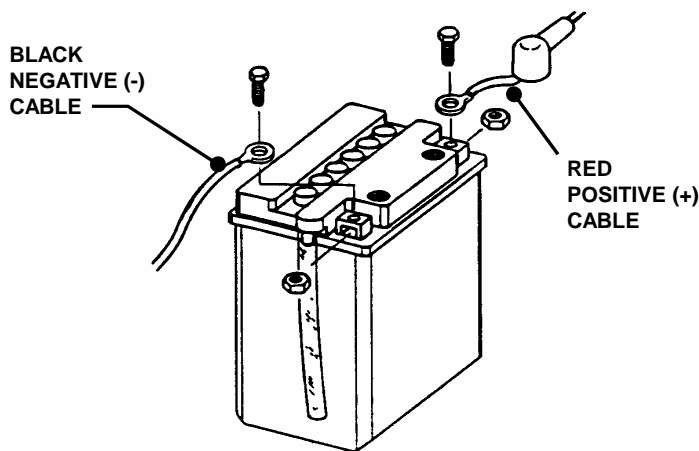

FIGURE 4.16
Before attempting any adjustments or repairs, STOP the engine, remove the key, remove the spark plug wire(s) from the spark plug(s) and secure wire(s) away from plug(s). Never attempt to service or charge the battery while it is installed on the YARD CRUISER. Shield the positive terminal with terminal cover located on battery harness. This prevents metal from touching the positive terminal, which could cause sparks. Cables must be connected to battery terminals in the proper position as shown in Figure 4.16.
2. Observe and note cable positions on battery. See Figure 4.16.
2. Connect cables to battery terminals. Connect RED (Positive) cable first. Connect BLACK (Negative) cable. See Figure 4.16.
3. Place the positive (+) terminal insulator over positive terminal and cable. See Figure 4.16.